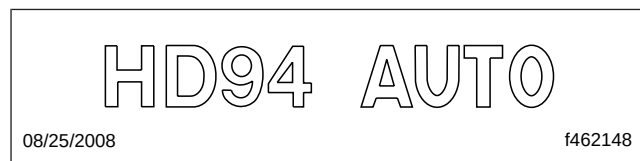

Fig. 1, Automatic Relief Plunger Identifier
2. Verify that the steering gear has automatic relief plungers. Steering gears with automatic relief plungers will have the word AUTO cast into the side of the housing. See Fig. 1. Steering gears with automatic relief plungers also have plastic caps over the plunger bosses.